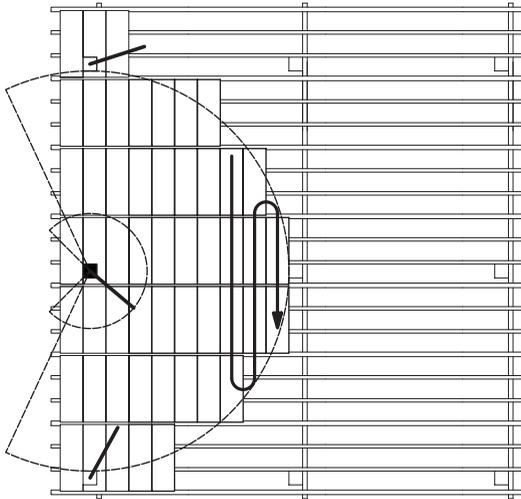

Figure 33. *Decking process.*
1. Always plan the area in advance and assure that the most suitable place for the first SkyReach is chosen. It is extremely important that the protected area is decked in a progressive, leading edge fashion, working from the SkyReach Anchor in the priority sequence as shown in Figure 33.